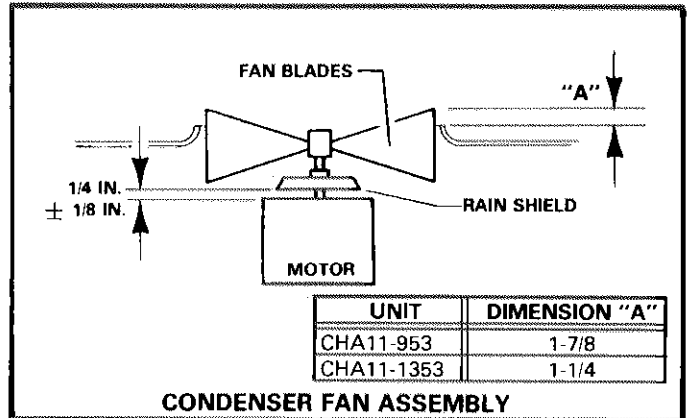

FIGURE 10
- 4 - The condenser fan draws air through the outdoor coil and discharges it out the top of unit. For fan service access, remove the bolts securing fan assembly. Figure 10 illustrates the condenser fan and motor assemblies.